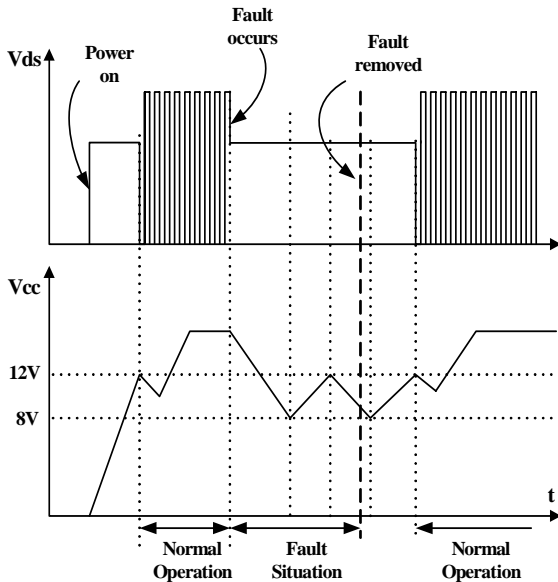

Figure 19. Auto Restart Operation
**3. Protection Circuit:** The FSCM0765R has several self protective functions such as over load protection (OLP), over voltage protection (OVP) and thermal shutdown (TSD). Because these protection circuits are fully integrated into the IC without external components, the reliability can be improved without increasing cost. Once the fault condition occurs, switching is terminated and the SenseFET remains off. This causes Vcc to fall. When Vcc reaches the UVLO stop voltage of 8V, the current consumed by the FSCM0765R decreases to the startup current (typically 25uA) and the current supplied from the DC link charges the external capacitor ( $C_a$ ) that is connected to the Vcc pin. When Vcc reaches the start voltage of 12V, the FSCM0765R resumes its normal operation. In this manner, the auto-restart can alternately enable and disable the switching of the power SenseFET until the fault condition is eliminated (see Figure 19).